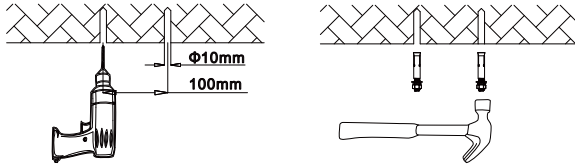

FIG. 5
3. Mark the mounting surface and drill. Fix screw into the hole with a hammer. Fig. 5.